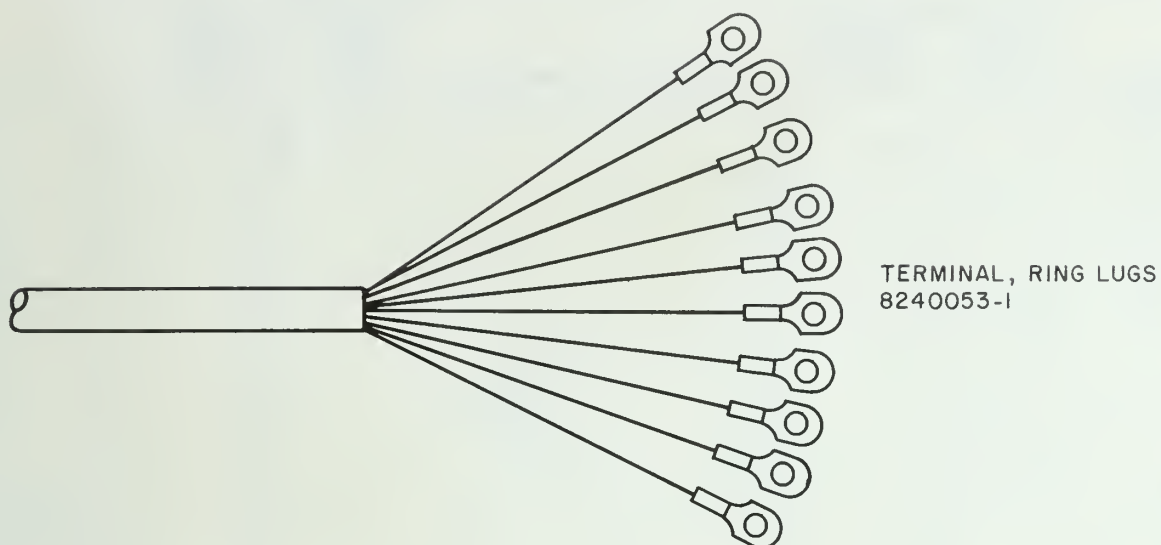

Figure 9-4. Connector Assembly, WSR-57 Synchro Cable
**9.5.4.2 WSR-57 Installation Wiring.** — Provided in the installation kit are two 50-foot cables with the connectors in place of the IDE end. The larger of the two multi-conductor cables is for data input, and the smaller cable is for synchro input. Connect both cables to the IDE. Turn radar power off. Route the synchro cable to the rear of the console and through to the front center of the radar console between TB207 and TB209. Lace to existing harness, leaving appropriate slack for connection to TB207 and TB209. See figure 9-4 for connector assembly and table 9-2 for pinout and color code. Route the data cable to the bottom rear of the radar console and up through the interior into the DVIP cabinet via one of the two access holes (see DVIP installation). Leave appropriate slack so that the DVIP drawer may be pulled out to the service position. See figure 9-5 for connector assembly and